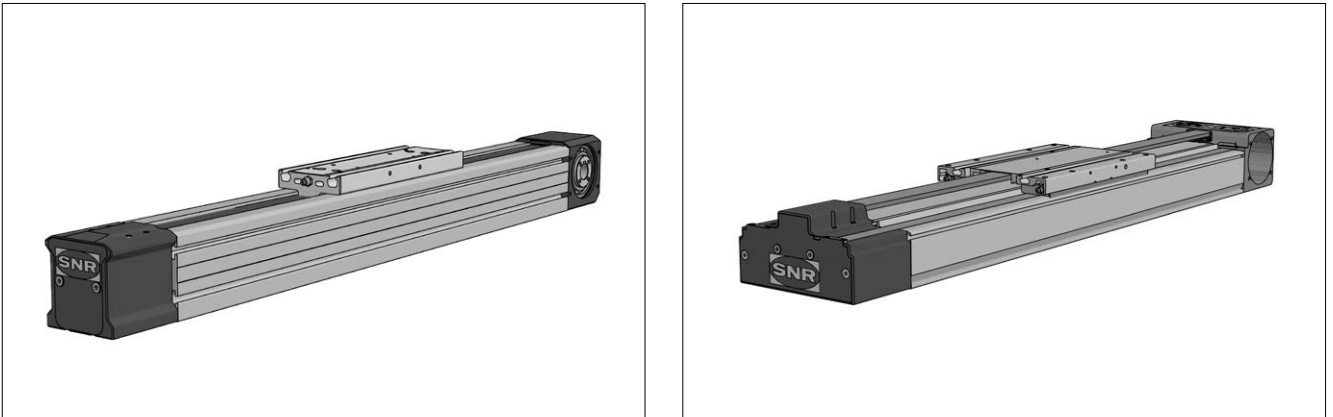

Figure 5.1 ___ AXE with toothed belt drive
- Universal, usable as single axis or in combination with other axes as linear axes (Figure 5.1)